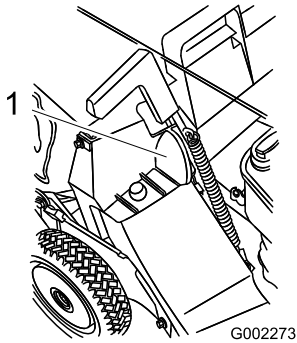

Figure 20
- Pull the discharge door handle forward until the pin clears the catch, and move the handle rearward until the pin locks in the bag notch (Figure 20).